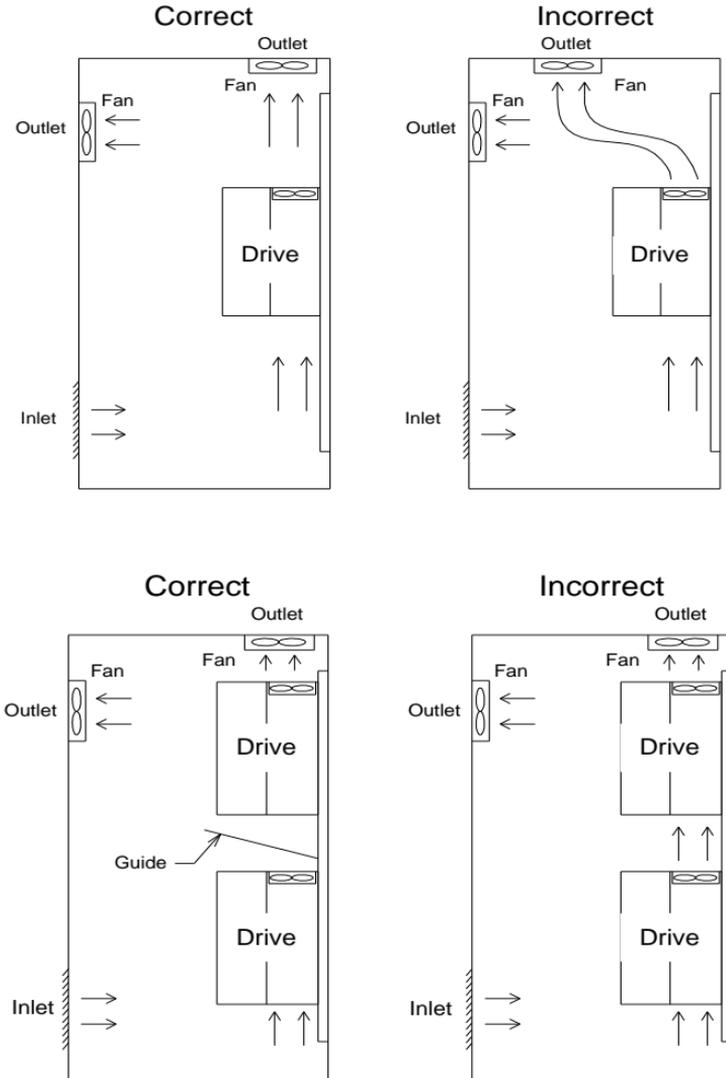
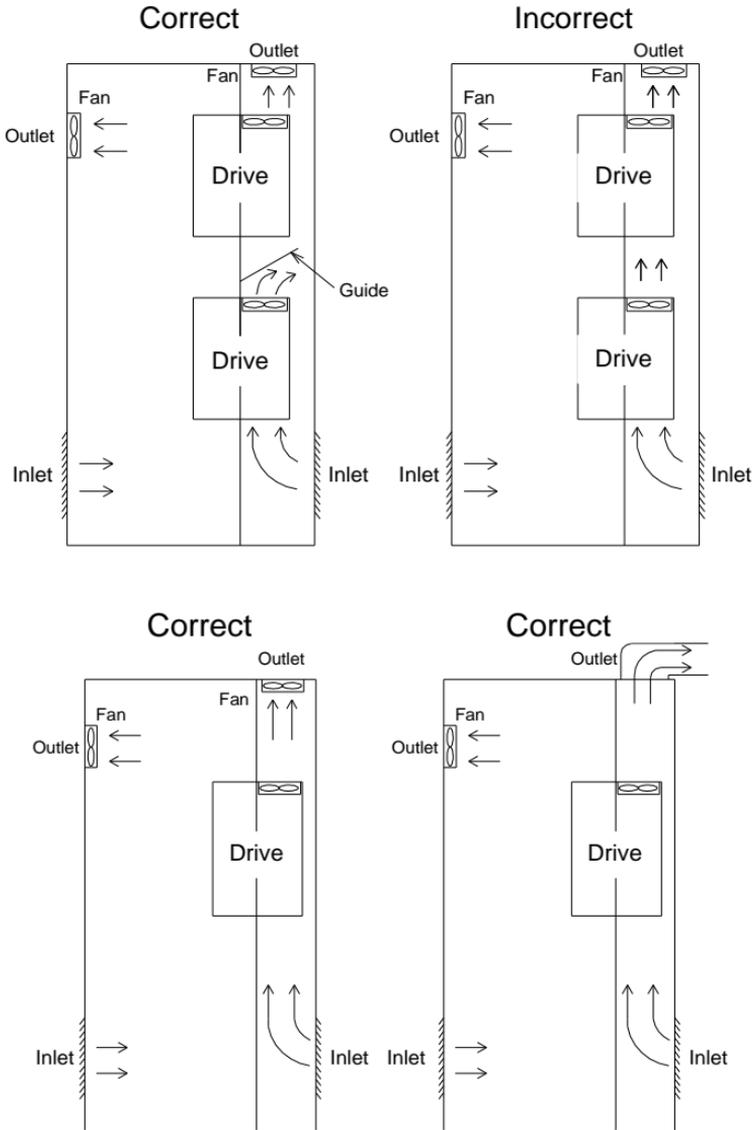

Figure 1: Drive mounting inside the cabinet/control panel
Figure 2: Drive mounting outside the cabinet/control panel
**2-2-3 Arrangement:** Due to the heat generated at the machine operation, the drive must be installed in the ventilation space. The installations of drive are shown as below figure1 and figure 2: